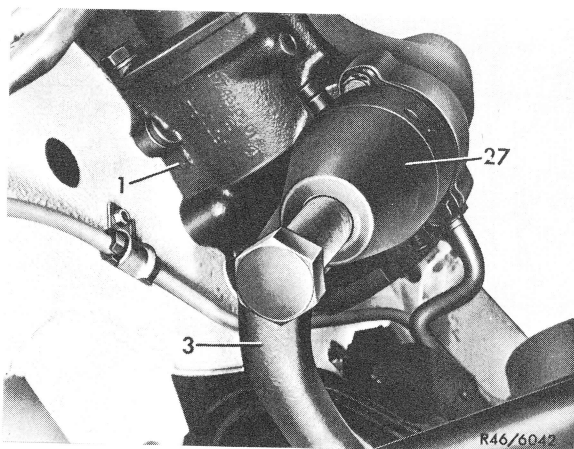

Fig. 3
- 3 Pull pitman arm (3) from pitman shaft by means of puller (27) (Fig. 3).